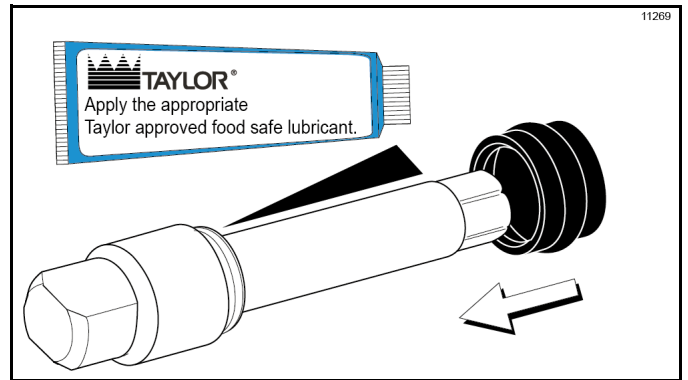

Figure 6-12
- Lubricate the groove on the soft serve beater driveshaft before installing. Slide the beater driveshaft boot seal over the small end of the beater driveshaft and engage into the groove on the shaft. Heavily lubricate the inside portion of the boot seal and lubricate the flat end of the boot seal that comes in contact with the rear shell bearing. Apply an even coat of lubricant to the shaft. **Do not** lubricate the hex end. (See Figure 6-12.)